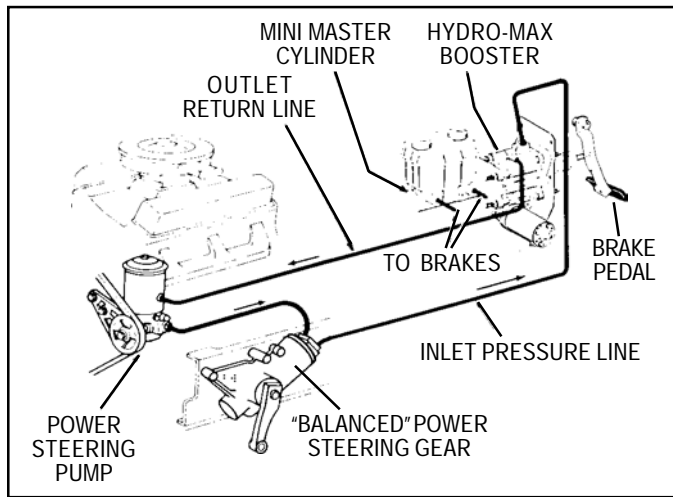

FIGURE 2
1. Integrated with the power steering hydraulic pump and steering gear. (Figure 2)